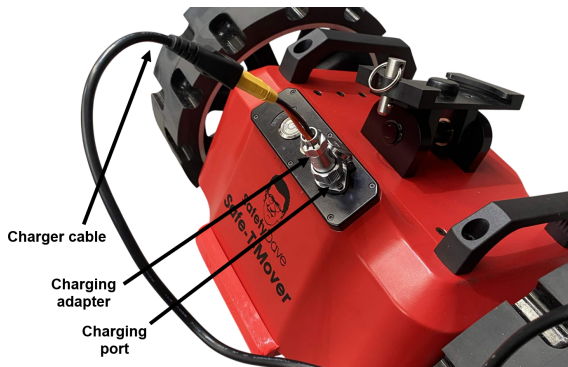

Figure 12 — Charging the battery internally with the charging adapter
2. Connect the charging adapter securely to the charging port on the front panel (see Figure 12).